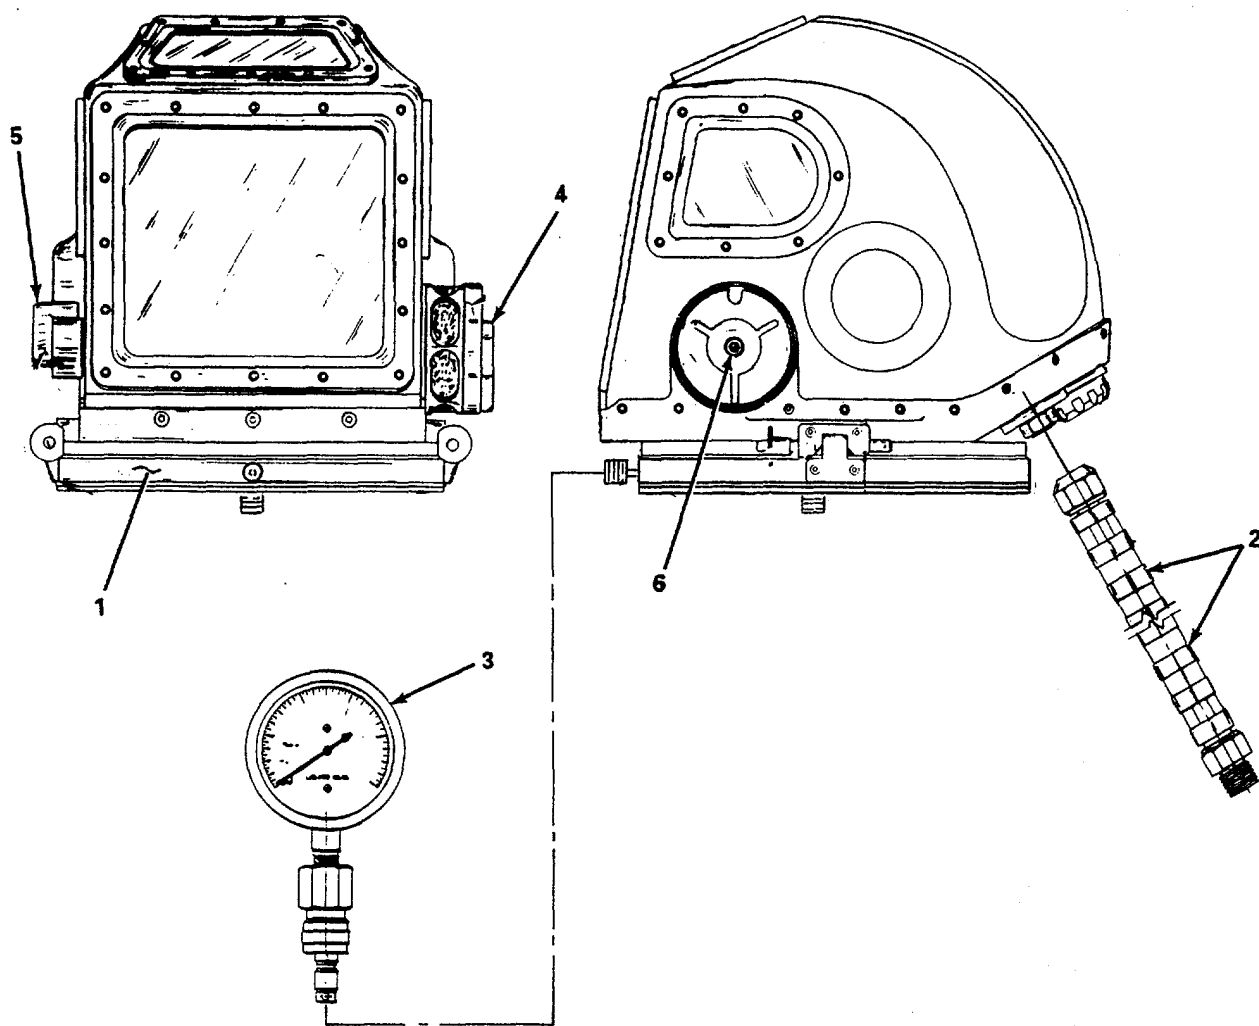

Figure 2-3. Helmet P/Flow and Leak Test.
2-8. **Test Procedures.** These procedures require the use of the MK12 SSDS Test Set. Only diver's compressed air will be utilized with the test set. A schematic diagram of the test set with a valve lineup matrix is shown in figure 2-3. Procedures should be performed in the step-by-step sequence listed to avoid errors and prevent damage. Each test is written as an independent function for the purpose of testing, following PMCS procedures. During prediving testing, transition from one test to another may be simplified by skipping those steps marked with an asterisk (*). All tests are to be performed daily during prediving procedures with the exception of the relief valve test, and the drysuit leak test. These are permission functions but will be accomplished as often as the diver supervisor deems necessary. For example, as new suits are brought to the dive station or after repairs have been effected due to damage incurred during previous dives.
- (10) Reconnect vacuum pump (4). Bleed off until the vacuum gage (8) indicates zero.
- (11) Turn the VAC/AIR trigger (7) to AIR.
- (12) Disconnect and stow the vacuum pump (4).
- (13) Remove vacuum gage (8) and stow.
- *(14) Remove the air whip (1) from the helmet air adapter (2) and the test set adapter (3).
- *(15) Reinstall the protective cap on the helmet air supply adapter (2) and the plug on the test set outlet (OUT) (1) adapter.
- *(16) Secure all equipment and stow as required.
b. Helmet P/Flow and Leak Test (figure 2-3).
- *(1) Install blanking plate (1).
- *(2) Remove the protective cap and gasket from the helmet air adapter and connect air supply whip (2).
- (3) Connect air whip to air supply of 100 psi.
- (4) Connect pressure gage (3) to quick disconnect on blanking plate (1).
- (5) Open exhaust valve (4).
- (6) Slowly open air supply valve (5) and check that the pressure gage (3) indicates the applied pressure.